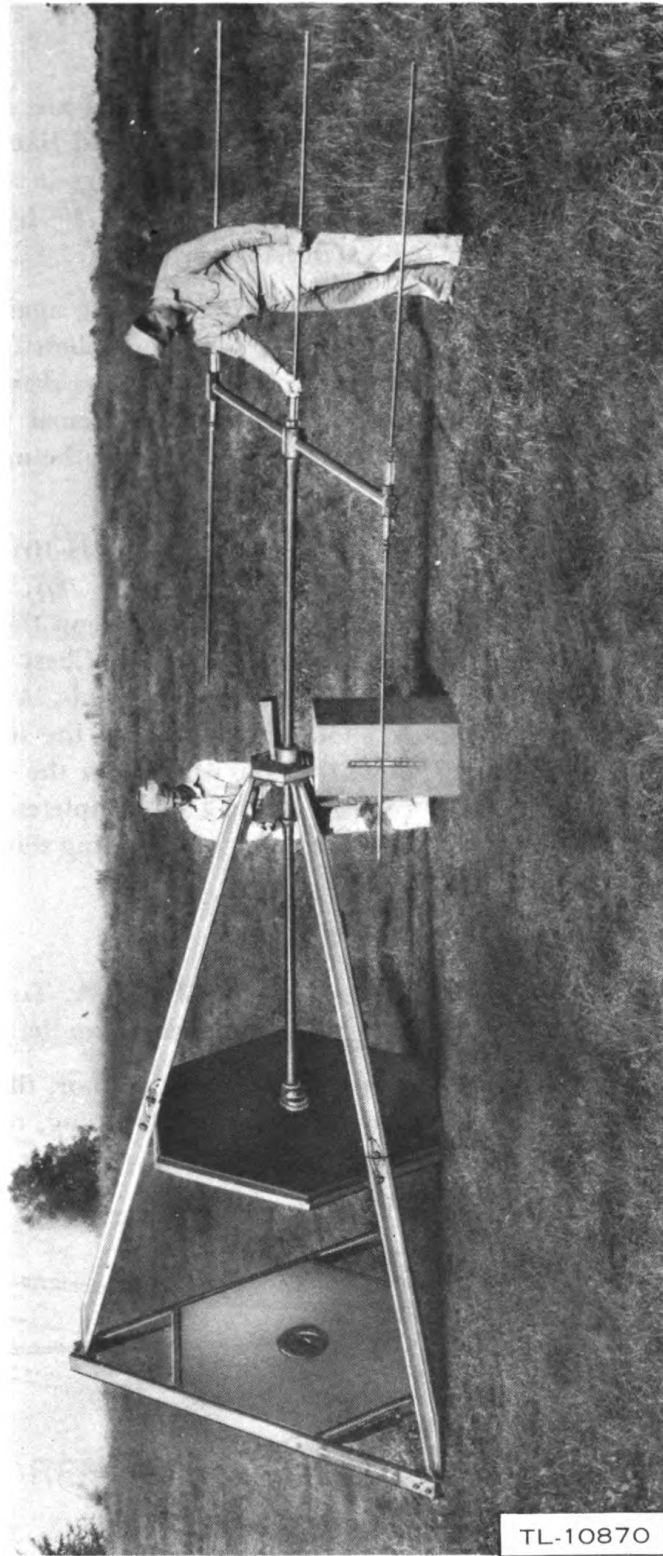
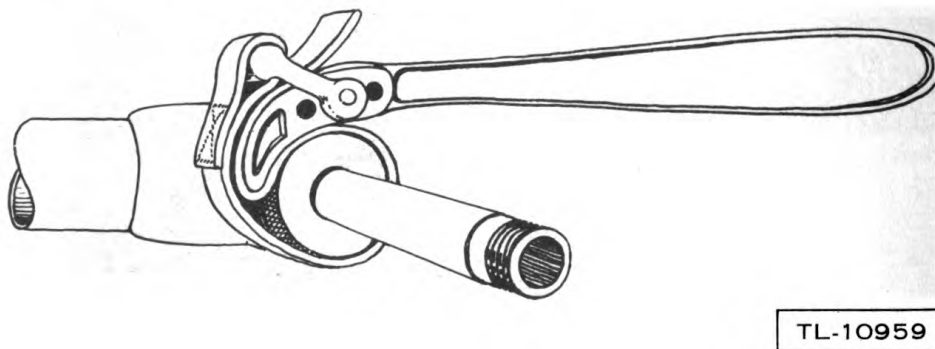

Figure 16. Assembly of both mast sections and of antenna rods.
Figure 17. Method of using strap wrench.
(4) After the upper mast and crossarm sections are assembled, put the mast through the opening in the apex block and line up the mounting holes and jacks with the mounting holes and plugs in the lower mast section. Bolt the sections together with $\frac{3}{8}$ "-16 x 1" hexagonal head cap screws from Chest CH-128-A (fig. 16).
(5) With the bottom surface of the apex bearing against the top of the apex block, place one of the wedges, packed in Chest CH-137-A, through the opening in the apex block, forcing the antenna mast to one side. This wedge prevents the mast from falling to its normal position when the tower is placed upright, and the receiver chest can be moved into position in a later operation.
(6) Remove the five antenna rods from Chest CH-105-A and plug them into the sockets on the crossarm assembly (fig. 16). The five rods are interchangeable and are secured by knurled nuts on the rods. These nuts are tightened with the strap wrench stored in Chest CH-128-A. Figure 17 illustrates the procedure for tightening the nuts. A quantity of rosin, packed in Chest CH-128-A, should be applied to the strap of the wrench before use. By sighting down the rods and down the crossarm, check to see that the rods have not been bent. This completes the antenna mast assembly. The tower may be set upright, but in doing this, keep the antenna rods clear to prevent damage.